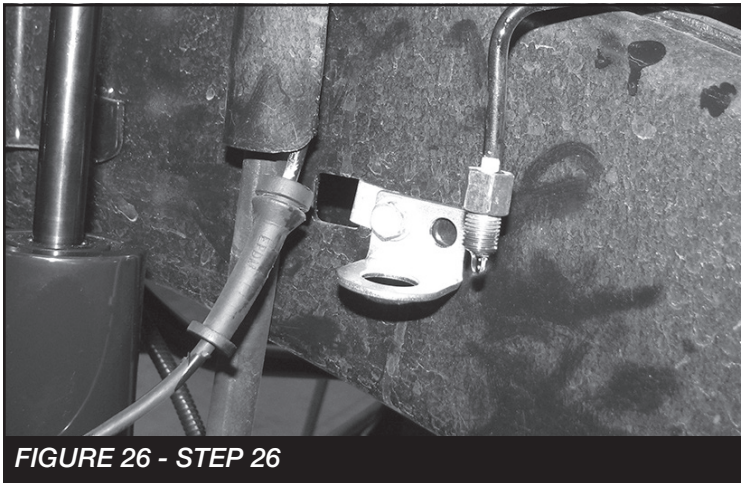

FIGURE 26 - STEP 26
26. Install the supplied brake line bracket in the factory location using the factory bolt. **SEE FIGURE 26**